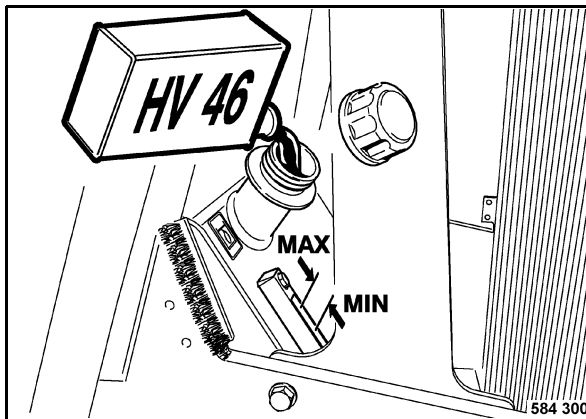

Fig. 126
- Check the hydraulic oil level in the inspection glass (Fig. 126).